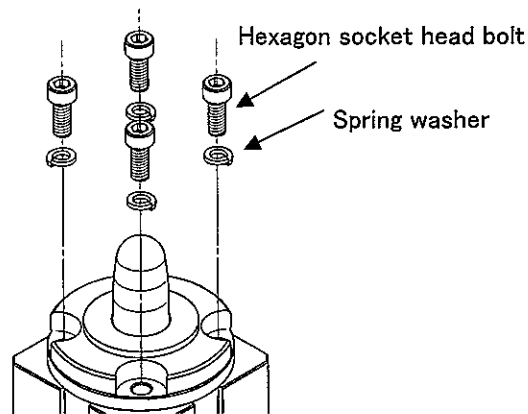

Fig. 7-1
#### (2) Removal of guide pin (Fig. 7-1, 7-2)